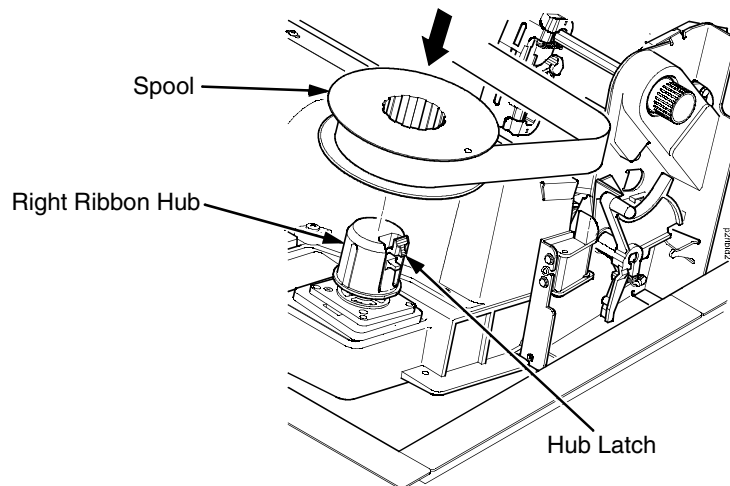

Figure 34. Placing the Ribbon Spool on the Right Ribbon Hub
7. With the ribbon supply to the outside, squeeze the right hub latch and place the full spool on the right ribbon hub. Press the spool down until the hub latch snaps into place. See Figure 34.